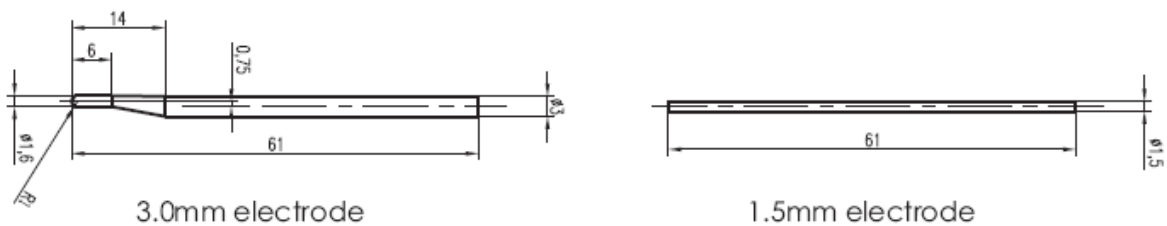

Fig1: Sizes and shape of electrodes
- . Sizes and shape of electrodes please refer to Fig 1.